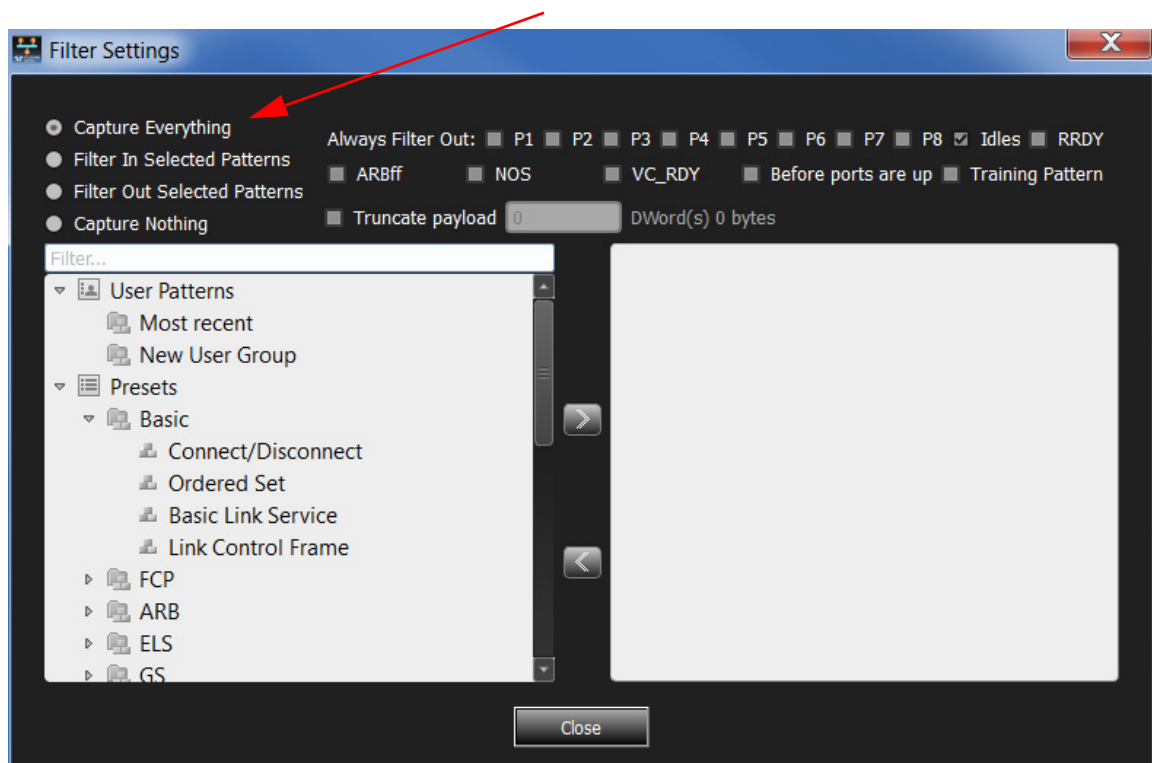

Figure 2.86: Filter Settings Dialog
- ❑ Choose a capture option by clicking on the Capture Everything  icon shown in the figure below. The Filter Settings dialog displays (see Figure 2.86 on page 110.)
- ❑ Select Filter In Selected Patterns or Filter Out Selected Patterns to select patterns for inclusion or exclusion (see Figure 2.86). See “Triggering/Filtering Patterns (Easy Mode)” on page 71.
- ❑ Check the Truncate Payload option to truncate payload after x-number of Dword(s) 0 bytes. (see Figure 2.86).